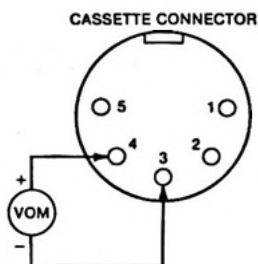

Figure 6-9
Diagrams (Figs. 6-9 and 6-10)
Step 1 — Turn your computer off and connect a voltmeter or VOM to the cassette output connector pins on the back of the computer as shown in Fig. 6-9. To make contact with a connector pin, you can insert a small pin or wire lead into each respective connector pin. A doubled-over ½-watt resistor lead wire will do the job. Then, attach